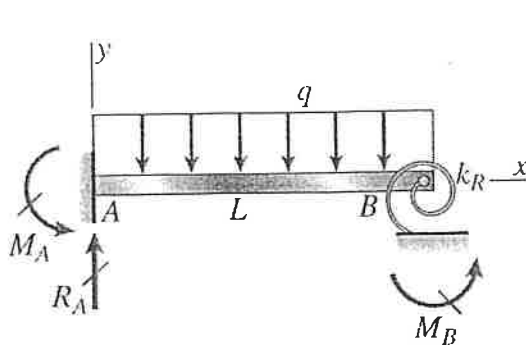

Figure 3
3. In Figure 3, a cantilever beam of length L and loaded by uniform load of intensity q has a fixed support at A and spring support at B with rotational stiffness k_R . A rotation at B , θ_B , results in a reaction moment $M_B = k_R \times \theta_B$. Use the second-order differential equation of the deflection curve to solve for displacements δ_B at end B . (20%)